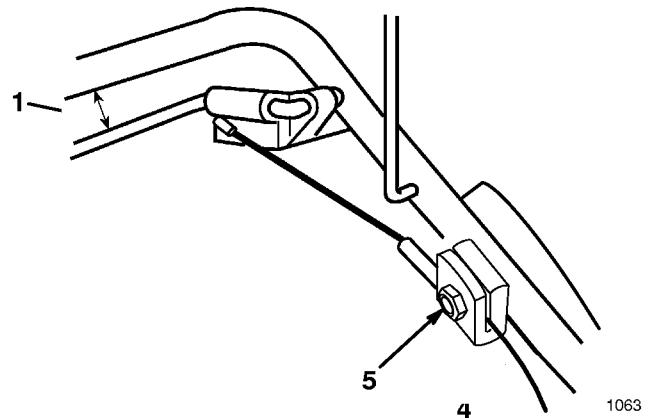

Figure 30
- Loosen nut on cable support (Fig. 30).
- Hold self-propelled bail 1 to 1 $\frac{1}{2}$  in. (25 to 38 mm) from handle (Fig. 30).